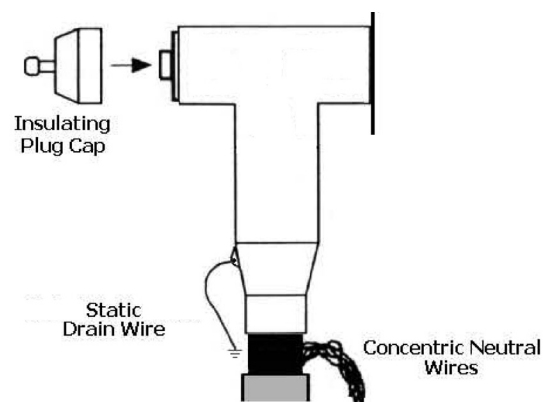

Fig. 12 - Final Steps
B. Twist the neutral wires into a braid and connect to system ground with appropriate connector. Make sure to provide sufficient slack in ground braid to provide for future operation. (See Figure 12.)